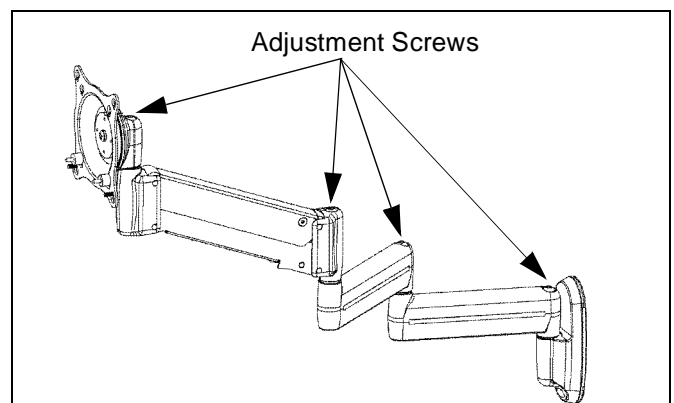

Figure 24: Pivot / Swing Arm Adjustment
- Using 3/16" hex key, slightly loosen or tighten the adjustment screw(s) as necessary (See Figure 24).